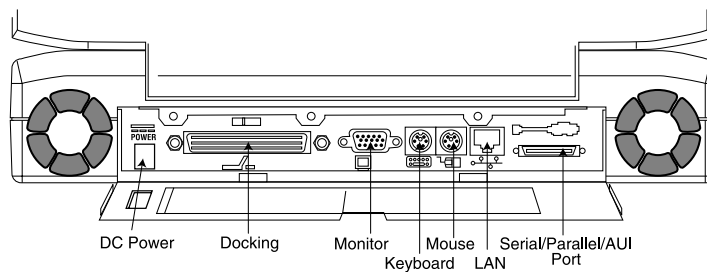

Figure 3-7 PrecisionBook Rear Access port
2. Attach a twisted-pair cable to the PrecisionBook's 10-Base T Ethernet (LAN) connector (see Figure 3-7).
2. Connect the male end of the I/O break-out cable to the PrecisionBook's 50-pin serial/parallel/AUI connector on the rear panel (see Figure 3-7).